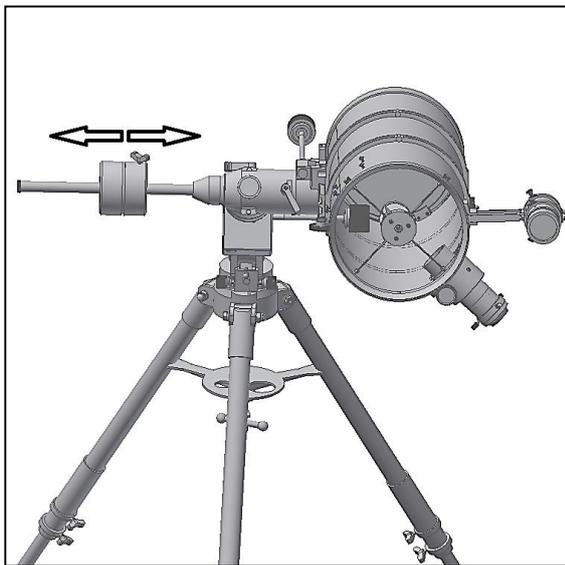

Figure 19. Balancing the R.A. axis.
3.2. Balancing the Optical tube (OTA). To reduce wear of the mount's worm-and-gear systems it is important to balance the mount. Balancing is very important and should be done every observing session. Start by balancing the R.A. axis (figure 19). Place the counterweight shaft in the horizontal position Dec. Release gently the R.A. clutch. The Dec. clutch should be locked. If the telescope tube or counterweight tips to one side it means the R.A. axis is out of balance. Slide the counter-weight on the counterweight shaft until it is balanced (does not tilt to any side). You can now place the counterweight shaft in the up-right position and lock the R.A. clutch. Proceed in the same way but now for the telescope's tube. Keep the counterweight shaft in the horizontal position and slightly release the Dec. clutch. Observe to which side the tube tilts (front or back). Release both tube's hand-knobs (on the tube's rings) so that the optical tube can slide easily. Slide the tube so that the tube is balanced (does not tilt). Tighten the tube rings and you have your telescope balanced. For advanced use refined balance is required.